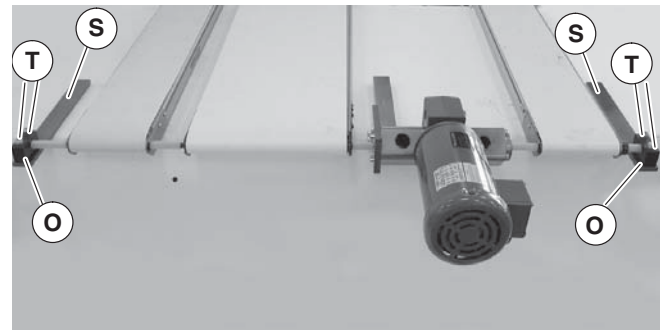

Figure 33
3. Remove four (4) screws (Figure 33, item T). Remove bearing blocks (O).